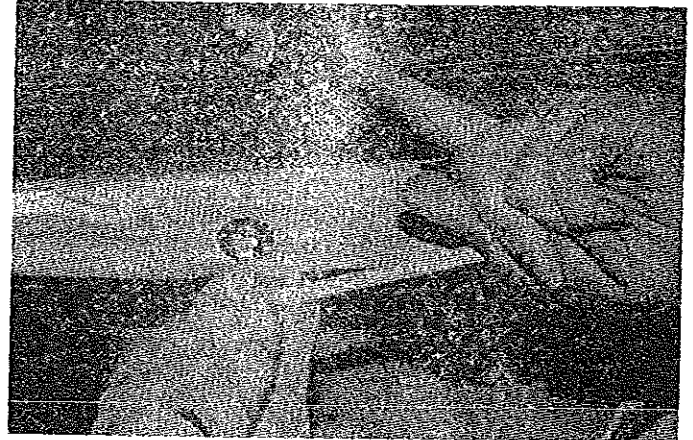

FIGURE 16
20. Pull the tent at the bottom over the bed edge and attach the exposed stretch cords to the nearest hooks on the underside of the bed. See Figure 16. Repeat for other bed end. Be certain to slide the stiffened tent fabric sections under the bed corners between the bed bottom and body rail top. These stiffened corners will prevent the entrance of insects drawn by the folding trailer interior lighting.